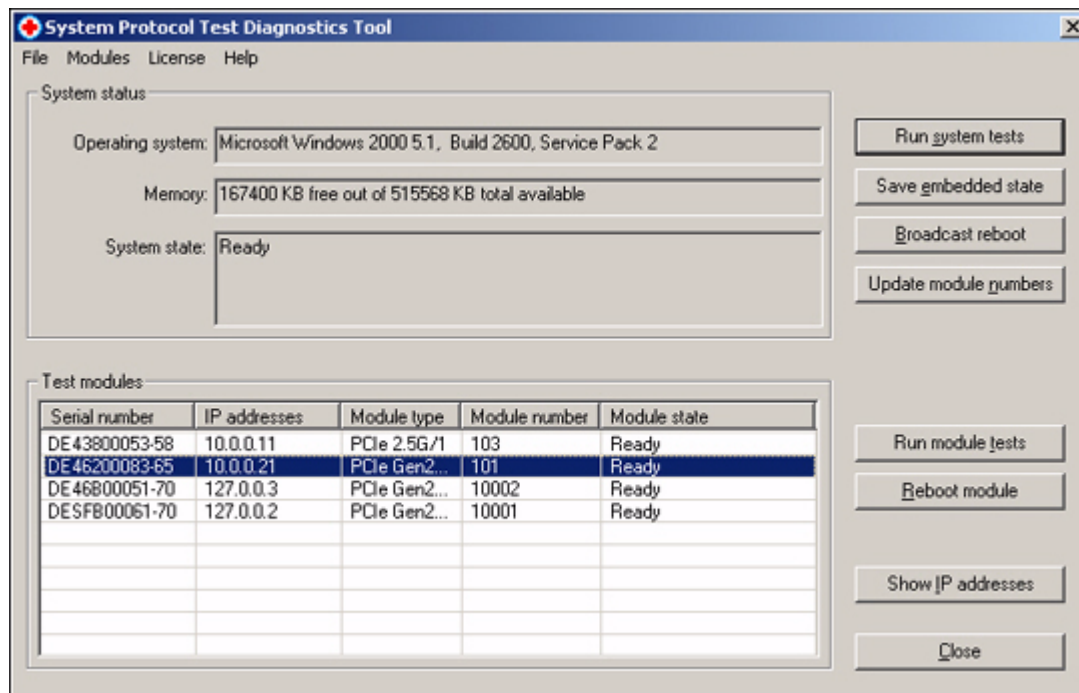

Figure 16 Diagnostics Tool window
The main Diagnostics Tool window appears (Figure 16).
- 2 Select the module, which you want to diagnose, in the Test modules section (Figure 16).